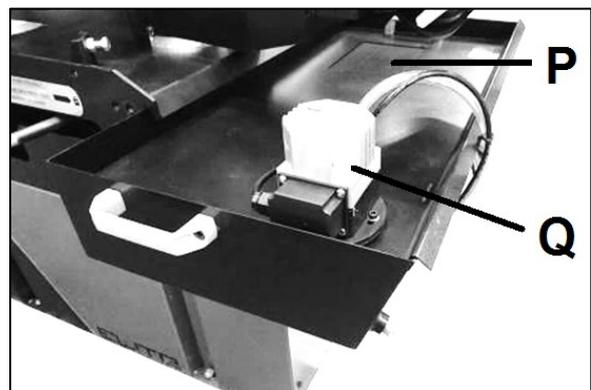

Figure 9-3: Coolant Pump
- Remove the pump (Q, Fig 9-3) by loosening the screws.
- Remove the filter screen (P) by loosening the screws.
- Replace the plug (T).
- Thoroughly clean the pump (Q) and replace.
- Fill the tank with coolant to approximately 25mm below the filter screen (P).
- Replace the filter screen (P) and pump (Q).